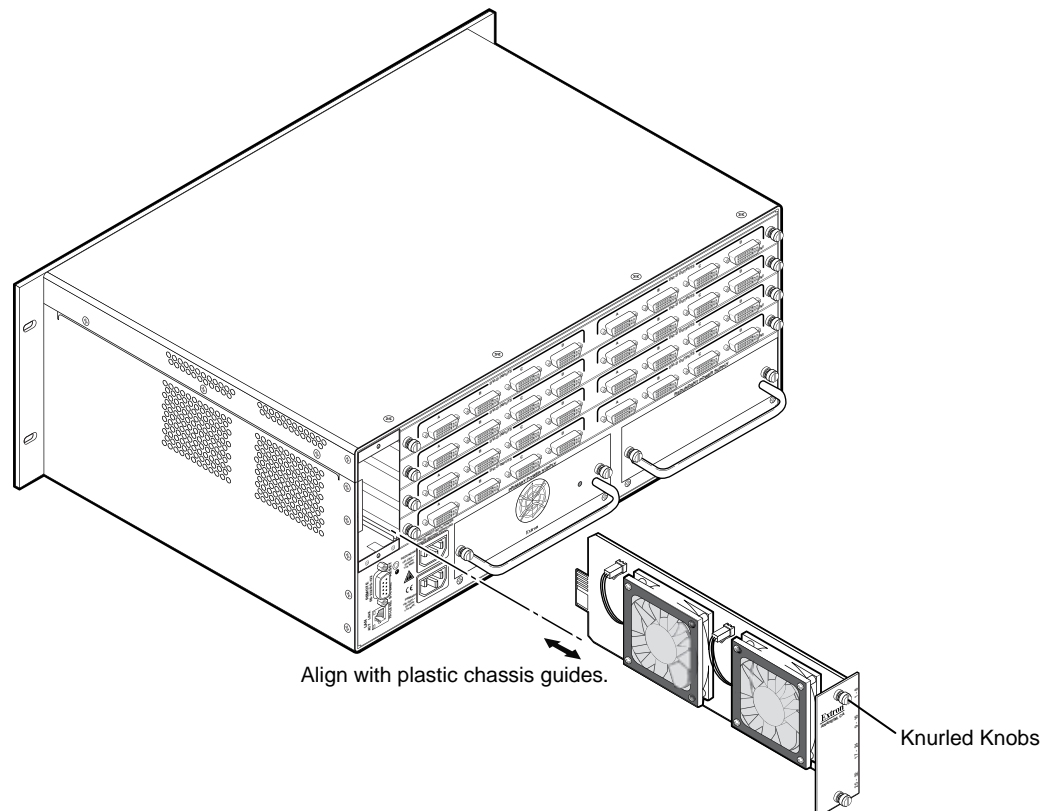

Figure 70. Fan Replacement
2. Rotate the top and bottom knurled knobs to completely loosen the captive screws (see figure 70).
2. Align the flanges on the fan with the top and bottom plastic chassis guides (see figure 70, on the previous page).